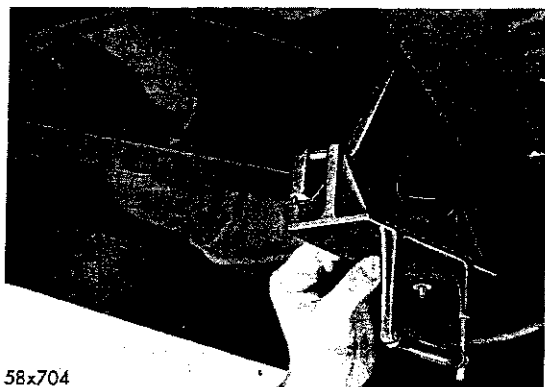

Fig. 12—Indexing the Gauge to the Adapter (Convertible Frame Shown)
(3) Without disturbing the gauge setting (adjusted in step 1), hold the gauge in contact with the bottom of the adapter and the pins on the side of the adapter (Fig. 12). Note the location of the bubble in the spirit level.